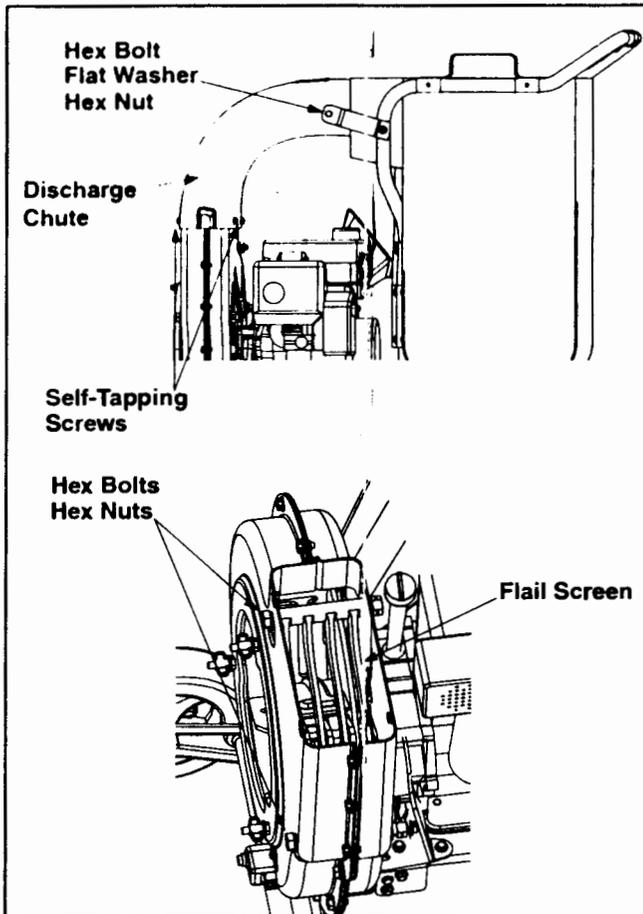

Figure 13
- Remove the four self-tapping screws from the bottom of the discharge chute, and the hex bolt, flat washer and hex nut from the top. Remove the discharge chute assembly. See Figure 13.
- Remove the two hex bolts and hex nuts which extend through the impeller housing. Lift the flail screen from the inside the housing. See Figure 13.
- Remove the two hex bolts and hex lock nuts which extend through the housing. Lift the flail screen out of the housing. Refer to Figure 13.